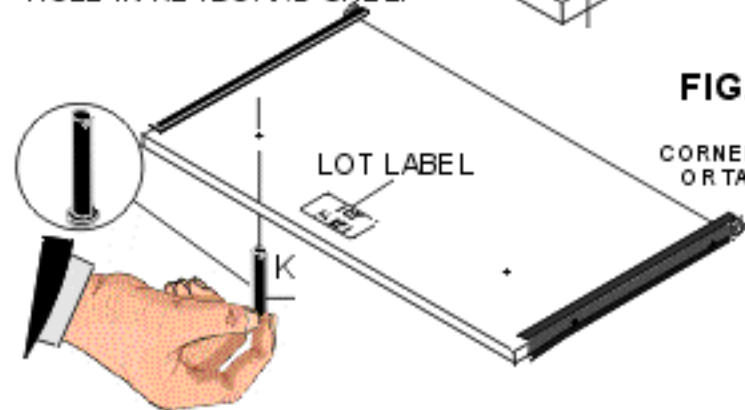

FIG. 13
Insert PIN (K) through top surface of KEYBOARD SHELF. FIG. 13 NOTE: LOT LABEL references underside of KEYBOARD SHELF. WHEELS on RAILS indicate back of KEYBOARD SHELF. Left hole selection as shown mounts MOUSE BOARD in right hand position. Select other hole for left hand position. Lay KEYBOARD SHELF (up-side down) on the corner of desk or table top to hold pin against SHELF surface. FIG. 13 PROTECT DESK OR TABLE TOP. Install THICK WASHER (L) as shown.